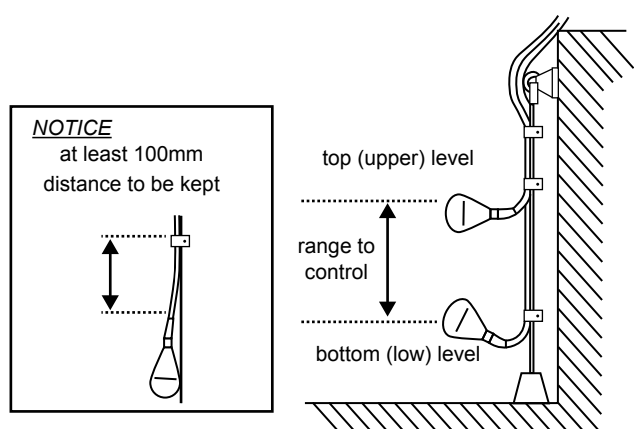

**Figure 14. Float Control Ports**
2. Connect the terminal plugs of float switches to the float control ports on the control panel (Figure 14)